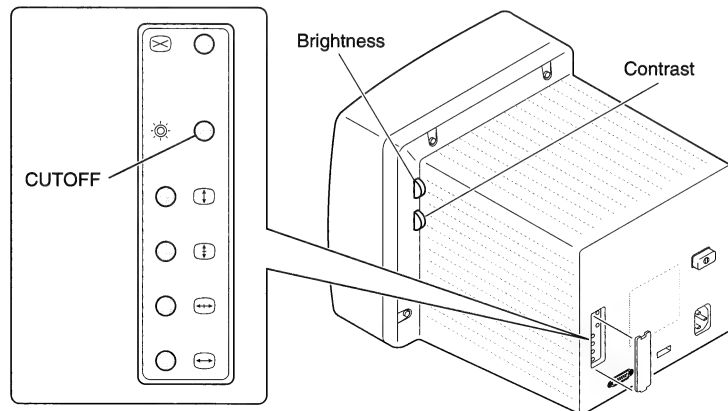

Figure 6 Brightness, Contrast, and Cutoff Controls
4. FIGURE 6. Set the brightness control to detent (midrange) and the contrast control to maximum (turn clockwise).
6. FIGURE 6. Using the plastic screwdriver, turn the Cutoff control (RV506) until the first bar is completely black and the second bar is just visible